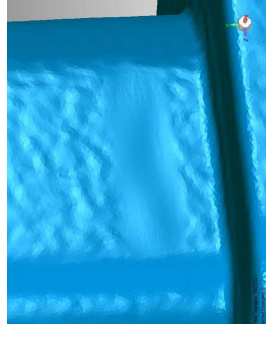

Figure 100 - After
2. With the area selected, click **Scan > Repair > Defeature** on the ribbon. The selected area is removed, as shown in **Figure 100**. The **Defeature** command is useful for removing unwanted features of the model.